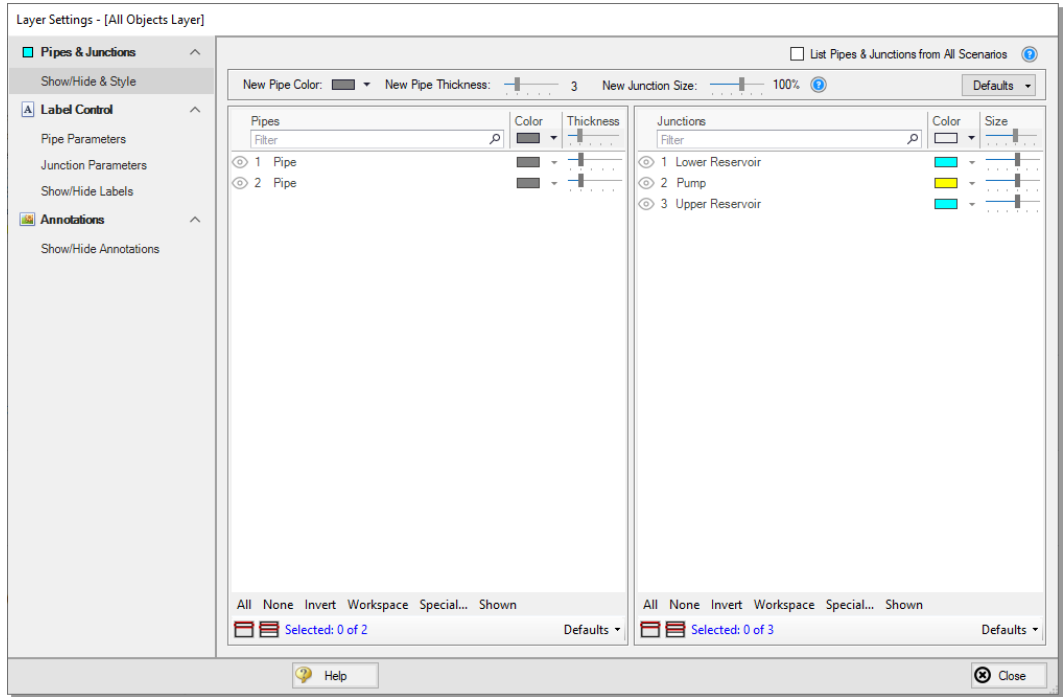

Figure 2.27 The Layer Settings window specifies content to be superimposed on the Workspace
- **Open the Layer Settings window for the All Objects Layer** by double-clicking the All Objects Layer, clicking the gear icon to the left of the layer name, or selecting the layer and clicking the single gear icon on the Layers Toolbar (Figure 2.27).